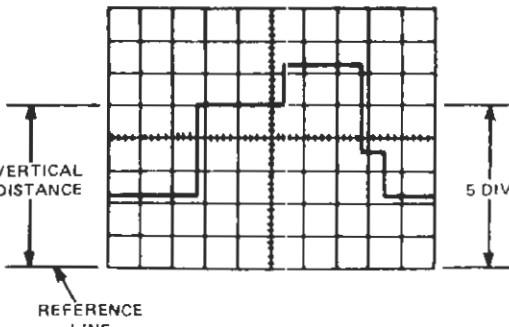

Figure 2-14. Instantaneous voltage measurement
2. Adjust the applicable TIME/DIV switch (20) or (21) for one complete cycle of waveform and set the VOLTS/DIV switch (11) for a trace amplitude of 4 to 6 divisions (see Figure 2-14).
3. Set the AC/GND/DC switch (13) to GND.
4. Use the appropriate Vertical Position control (14) or (15) to set the baseline on the central horizontal graticule line. However, if you know the signal voltage is wholly positive, use the bottommost graticule line. If you know the signal voltage to be negative, use the uppermost graticule line.
6. Use the Horizontal Position control (24) to position any point of interest on the central vertical graticule line. This line has additional calibration marks equal to 0.2 major division each. The voltage relative to ground at any point selected is equal to the number of divisions from that point to the ground-reference line multiplied by the VOLTS/DIV setting. In the example used for Figure 2-14, the voltage for a 0.5V/div scale is 2.5V (5.0 div  $\times$  .5V)